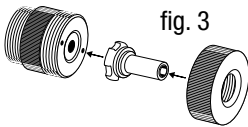

fig. 3
Removal and application of the battery pack fig. 3.
2. Insert the reusable expander (F) with the flange facing the Pipe Flaring Machine into the removable head (E) as in figure 3. Screw on the ring nut (G).